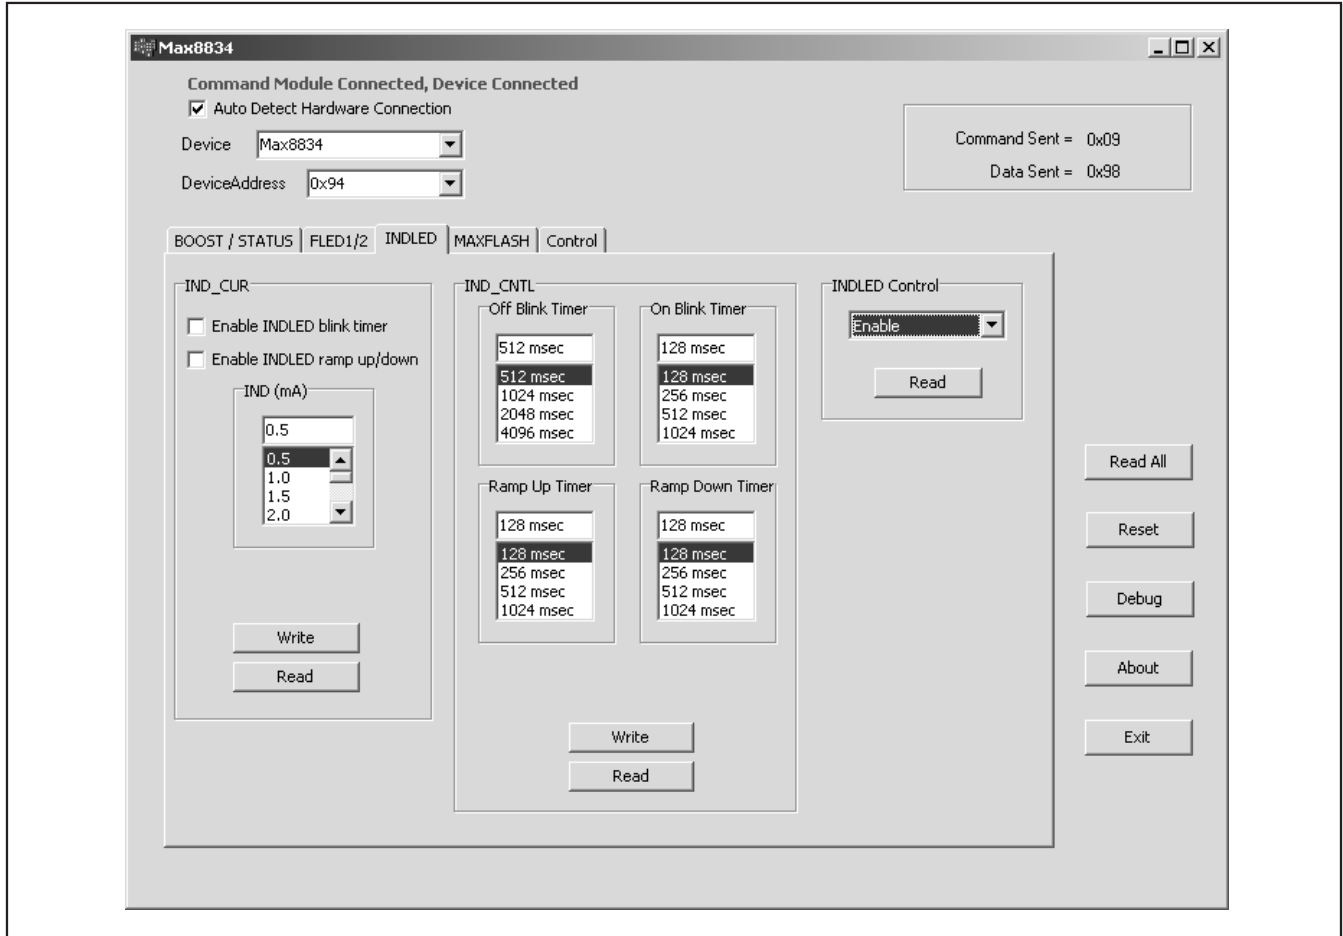

Figure 3. INDLED Tab
- 15) Switch to the **INDLED** tab, as shown in Figure 3. Select **Enable** from the **INDLED Control** drop-down list.
Choose the **INDLED** tab to set the indicator LED (INDLED). The INDLED current (**IND**) is regulated to I²C programmable levels up to 16mA. Programmable control is provided for (optional) **Ramp Up Timer** (off to on) and **Ramp Down Timer** (on to off), as well as **Off Blink Timer**, and **On Blink Timer**. The user can choose to enable or disable the ramp time and blink rate features. See Figure 3 for the **INDLED** tab sheet. Refer to the MAX8834Y/MAX8834Z IC data sheet for more information.